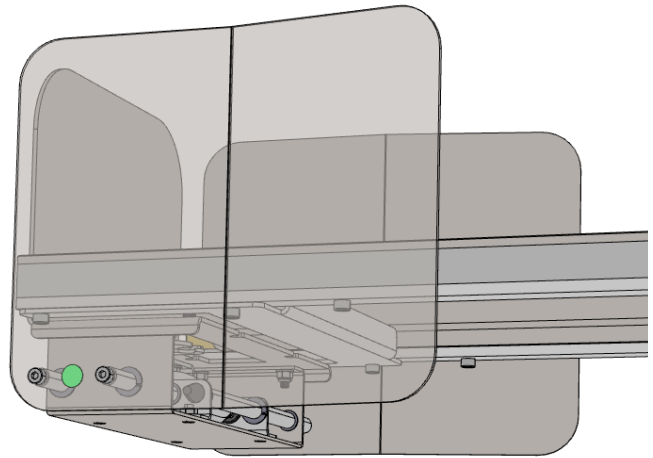

Fig. 2
- 2** Lift the assembly up (Fig 2).